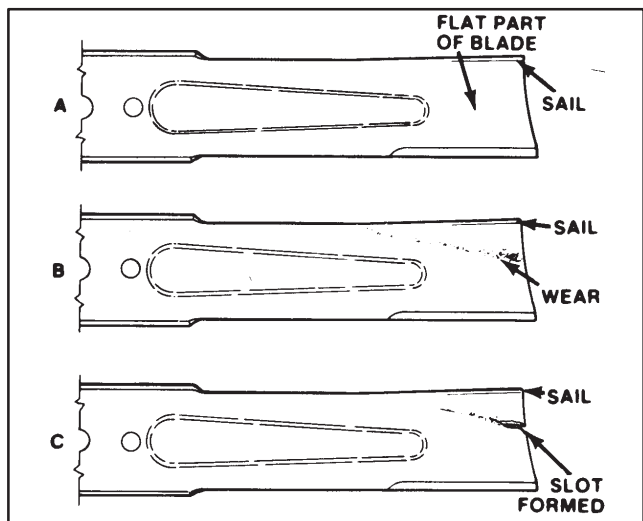

Figure 27
INSPECTING AND SHARPENING BLADE (Fig. 27 – 28)
2. Examine cutting ends of the blade carefully, especially where the flat and curved parts of the blade meet (Fig. 27–A). Since sand and abrasive material can wear away the metal that connects the flat and curved parts of the blade, check the blade before using the machine. If wear is noticed (Fig. 27–B), replace the blade: refer to Removing Cutter Blade.
If blade is allowed to wear, a slot will form between the sail and flat part of the blade (Fig. 27–C). Eventually a piece of the blade may break off and be thrown from under the housing, possibly resulting in serious injury to yourself or bystander.